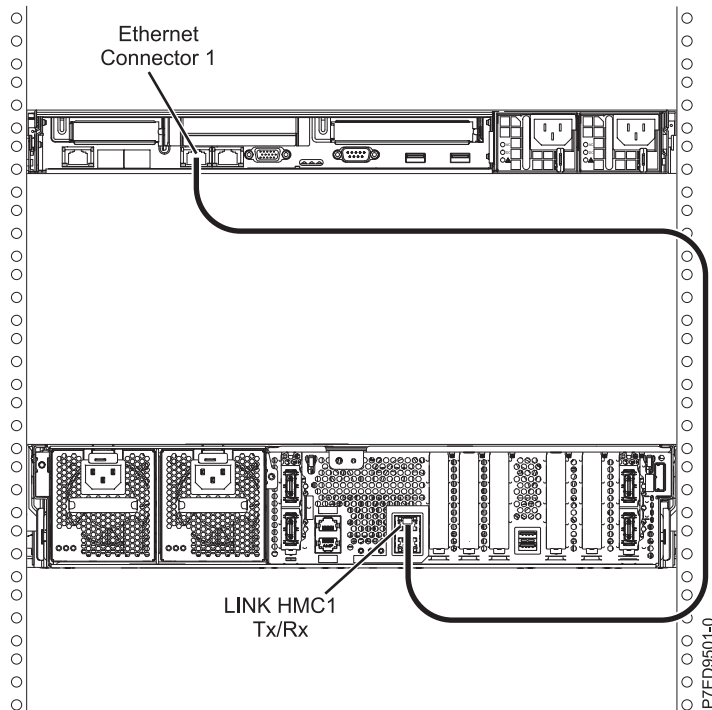

Figure 10. Attaching your HMC to the managed system
1. If you want to directly attach your HMC to the managed system, connect **Ethernet Connector 1** on the HMC to the **LINK HMC1** port on the managed system, as shown in Figure 10.